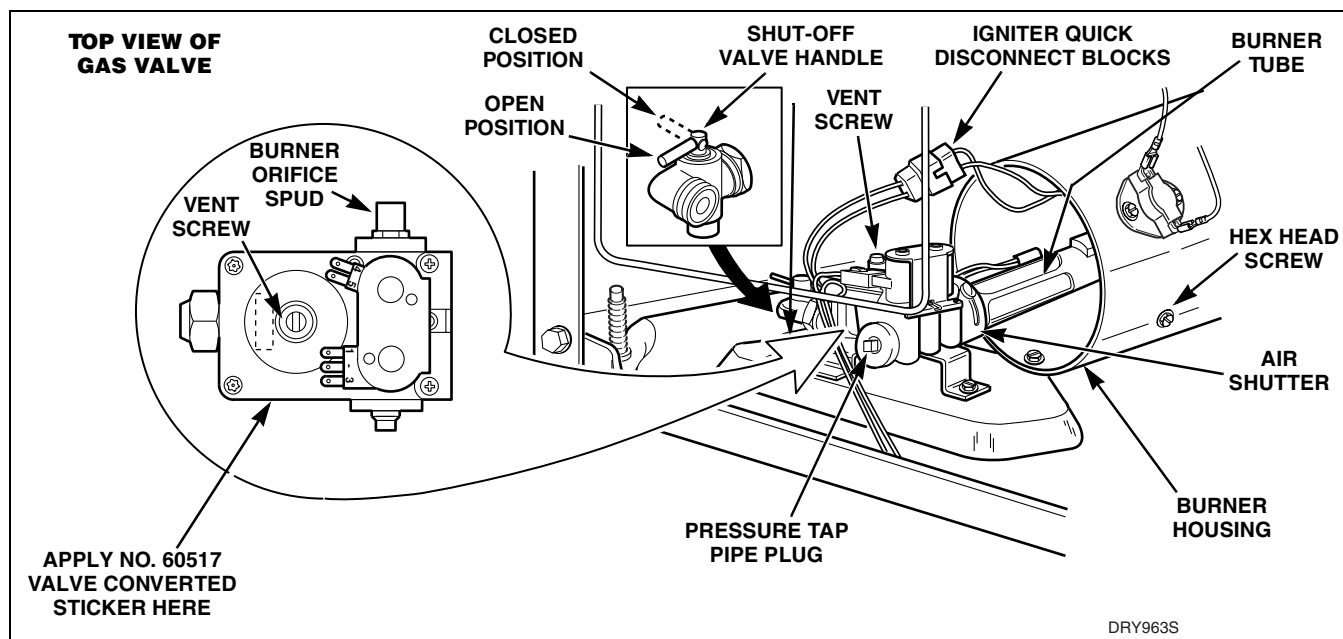

Figure 41
To reduce the risk of fire and explosion, reach in through access door opening and turn the gas line shut-off valve handle to the closed position. Refer to *Figure 41*.
- Disconnect igniter wires at quick disconnect blocks. Refer to *Figure 41*.
- Remove hex head screw holding burner tube and igniter in place. Refer to *Figure 41*.
- Remove vent screw and install No. 58754 Block-Open Plug. Refer to *Figure 41*.
- Turn the gas line shut-off valve handle to the open position and connect electrical service. Refer to *Figure 41*.
- (1) Remove pressure tap pipe plug. Refer to *Figure 41*.
- (3) Start dryer, pressure should be 10 ± 1.5 inches (25.4, ± 3.8 cm). Refer to *Figure 41*.